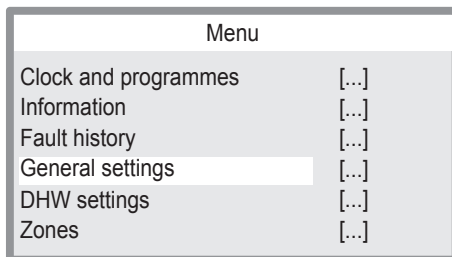

Fig. 8.3
- Press key 10 or 11 (Fig. 8.1) to select the desired menu (Fig. 8.3).